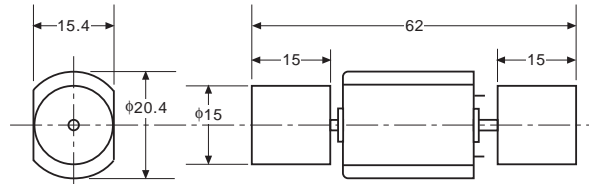

Figure 2.
The Construction Codes (CC) define the actual design arrangements of ATC Assemblies and Modules. CC 1a is available now, and comprises a ModelTorque Type 1 flat can motor, supporting integrally-fitted single or dual couplings. The ATC's are constructed to design spec. "a", which provides connection to the cardan shaft by a separately supplied 2mm dia. stub shaft. Figure 2 shows a size 3 ATC Assembly of Construction Code 1a. CC 1a is designed for installation in "open frame" chassis, such as an Athem Part No. 40017. The CC range is being continuously expanded to enable easy ATC Assembly fitting to many of the limited access weighted chassis. More information on Page 2.3 : "ATC Installation".